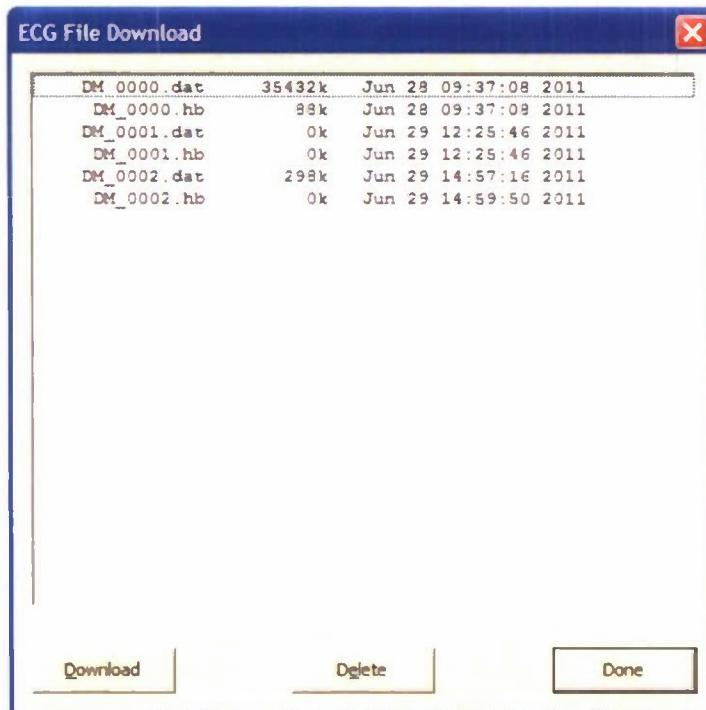

Figure 6. Dialog Box Used for Downloading or Deleting Data from the DHMS Sensor
Downloading Data. After completing a reecording session, the PC application can be used to download the data from the sensor. Simply choose the **Commands** menu item and select **File Download...** Figure 6 shows the dialog box the appears to allow the user to seleet which data files to download from the sensor. Note that similarly-named files appear in pairs. One pair of files is created for each recording session. The file with the .dat extension holds the raw ECG data, while the smaller file with the .hb extension holds the heartbeat and heart rate values. The user can select one or more files to download and then press the **Download** button at the bottom. The user can also delete files from the sensor using this dialog box. Since the downloading proeess uses the wireless interfaee, the download can take a lot of time (one hour to download four hours of raw ECG data). It is recommended that longer files be downloaded while the sensor is charging in its dock.
2. **Select Files to Download.** As shown earlier in Figure 6, the DHMS software presents a listing of all of the data files stored in nonvolatile memory on the DHMS sensor. Each recording session has a pair of files. The raw ECG data is stored in the .dat file and the heartbeat (and heart rate) data is stored in the .hb file. Select the file that you would like to download. Multiple files can be selected holding down the **Shift** key while clicking.